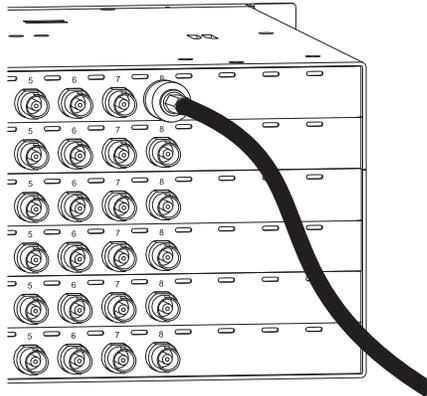

FIG. 35 Fasten cable onto the input or output BNC connector
1. Fasten the cables onto the input and output BNC connectors (FIG. 35).